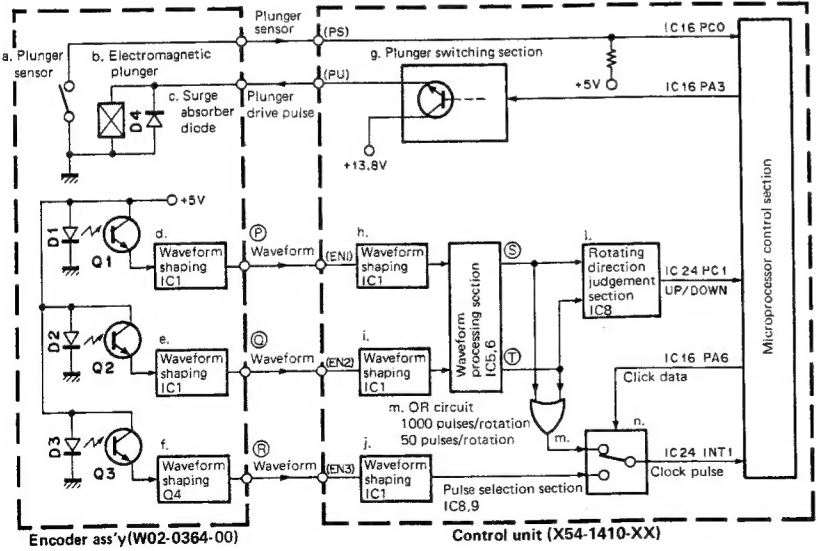
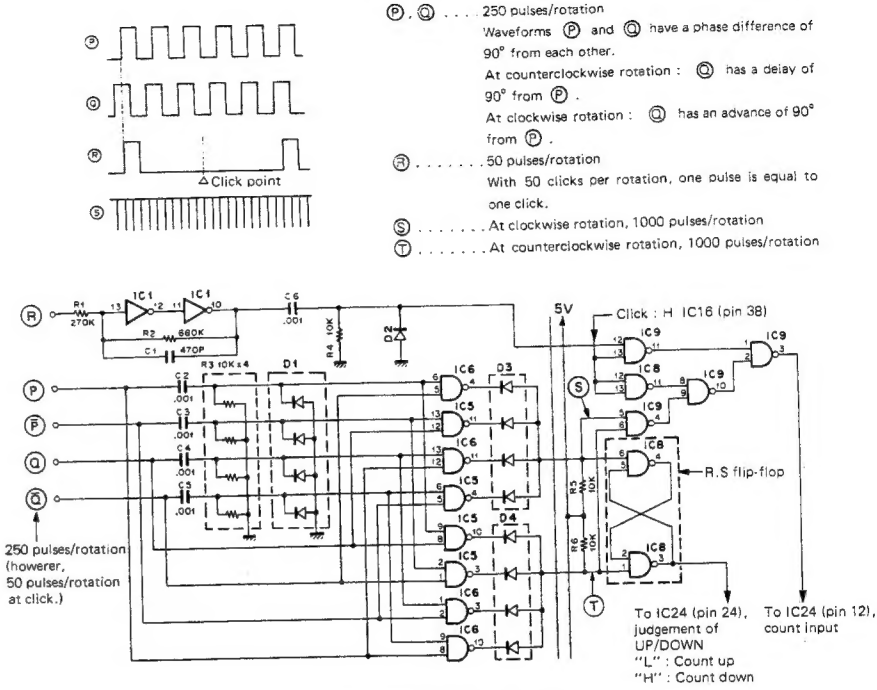

Fig. 12 Configuration of encoder processing section
Fig. 13 Output waveform of main encoder
Fig. 12 shows the configuration of the encoder section. The control pulse of the main dial "click" detent mechanism is as shown in Fig.13. When operating the [CH.Q], [CS], [VFO/M], [M=V], [SELECT], etc., keys, the CPU performs its associated process, judges whether or not the dial is detented, and inputs the status signal of the sensor (pin PS) to IC16 PCO (pin 14). For example, when the dial retent is activates, as when the dial is already detented when pin PS is "H", the process ends. However, when pin PS is "L", a 100msec pulse is emitted from PA3 IC16 pin 17, thereupon the plunger drive pulse (PN) is emitted through the switching operation of Q12 : DTC143T(S), Q13 : 2SC2459(Y) or Q14 : 2SA1307(Y).